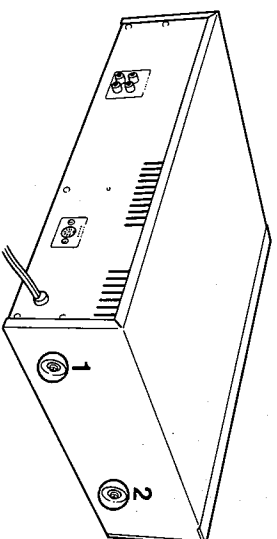

Fig. 1
Remove screws ① and ② of both left and right sides in fig. 1, and then remove the top cover.